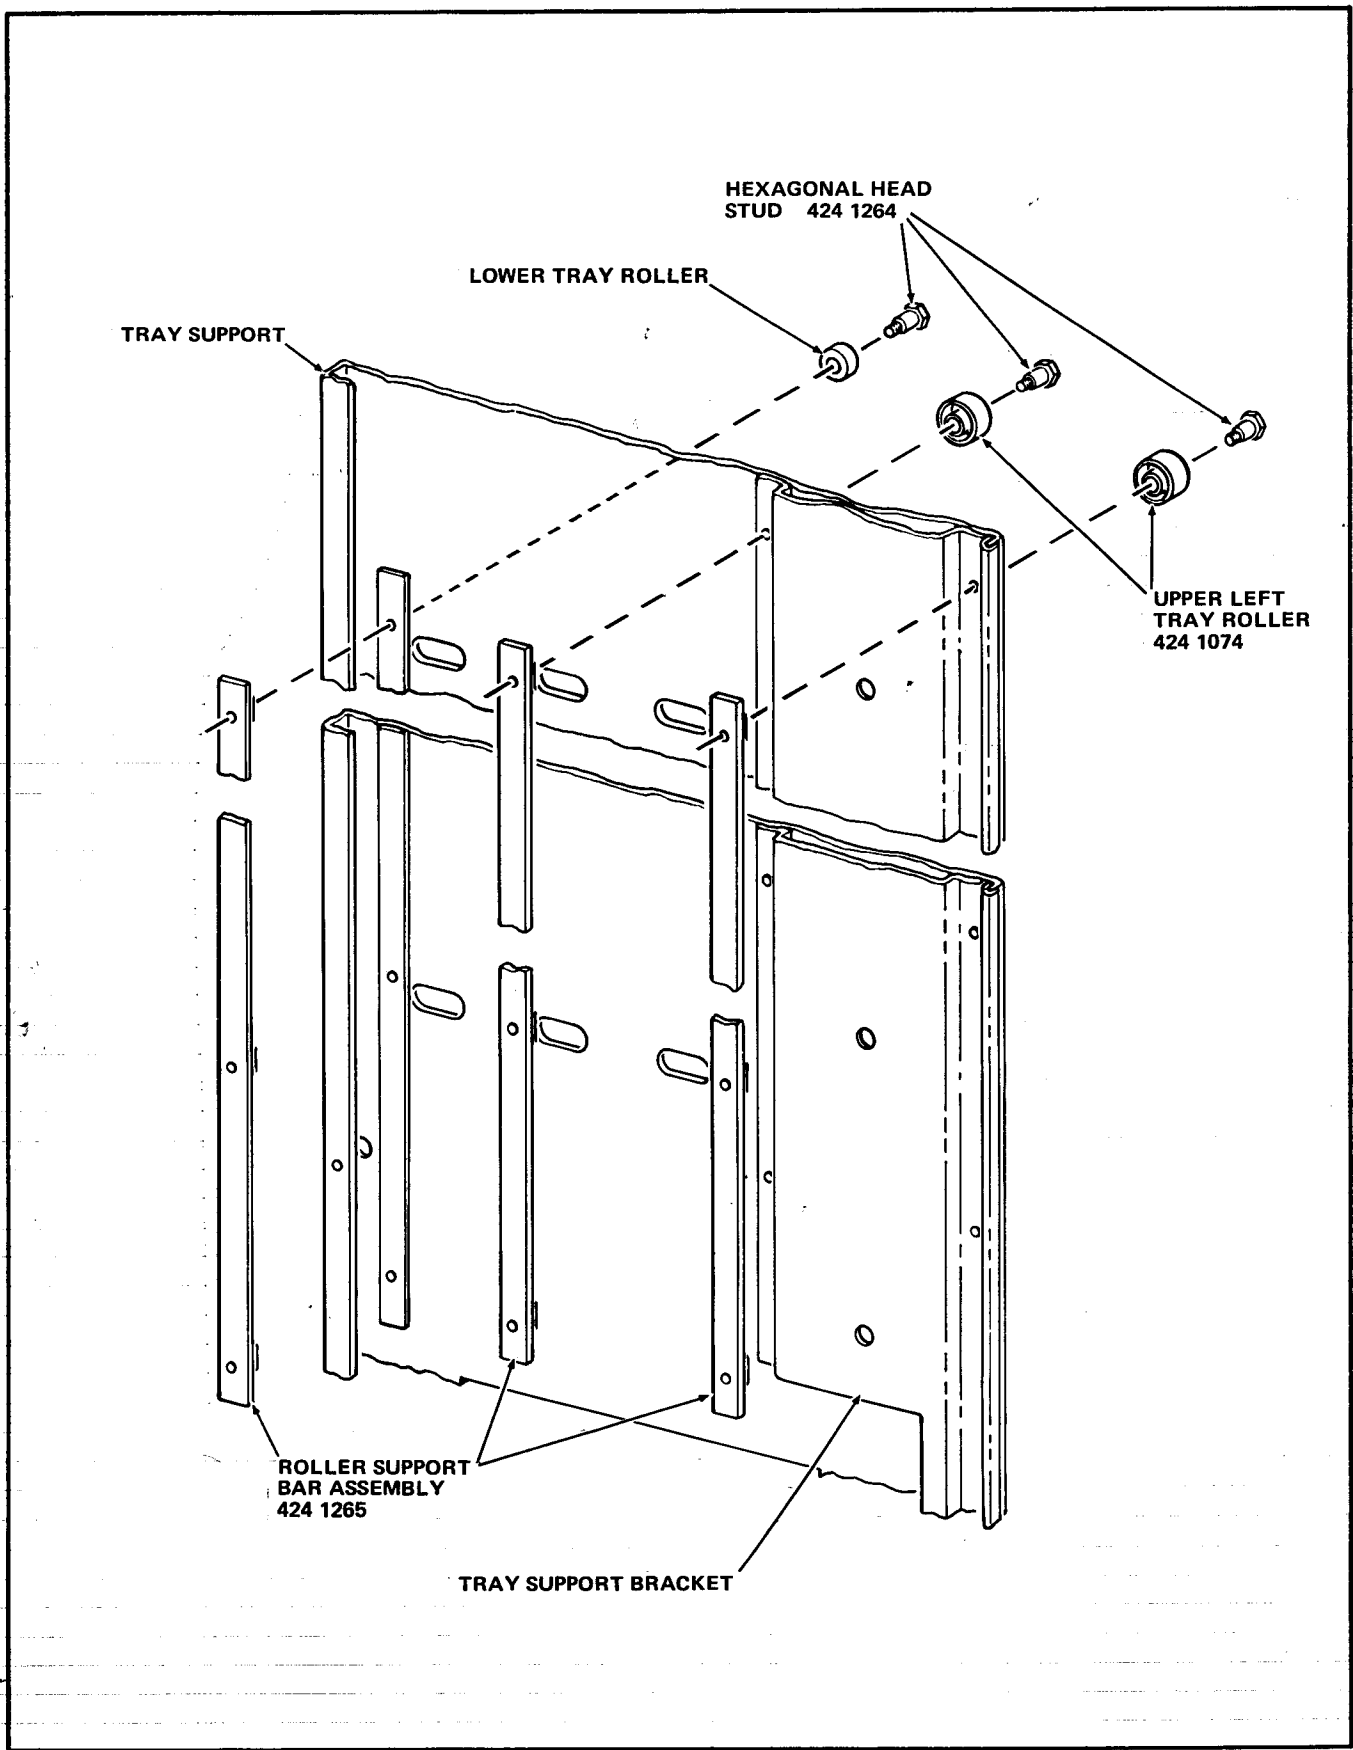

FIGURE 7
1. Position two of the Roller Support Bar Assemblies, Part Number 424-1265, included in the Kit, against the Left Tray Support Assembly so that the four Weld Nuts on the Roller Support Bar Assembly are aligned with the holes in the Tray Support and Tray Support Bracket. See Figure 7.
2. Holding the Roller Support Bar Assembly in place, reinstall the Upper Left Tray Rollers, removed in Step A-20, attaching with the Hexagonal Head Stud, Part Number 424-1264, included in the Kit, and replacing the defective Upper Left Tray Tray Roller with one of the Upper Left Tray Rollers, Part Number 424-1074, included in the Kit. See Figure 7.
3. Using the remaining Roller Support Bar Assembly and Hexagonal Head Studs, reinstall the four Lower Tray Rollers, removed in Step A-20. See Figure 7.